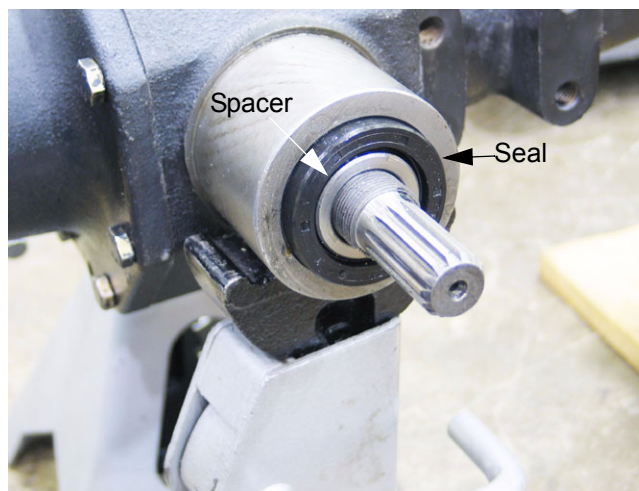

Figure 9.89
9.89. Lubricate the lip of the seal, and install it in the housing. See Figure 9.89.